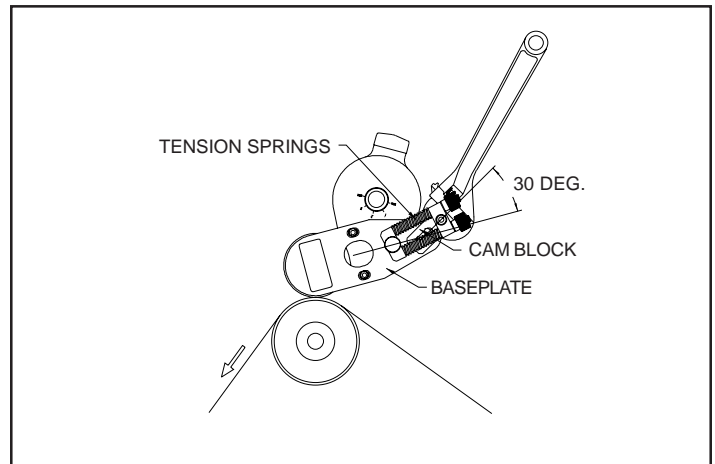

FIGURE 29
**3 - Using an adjustable wrench, grip the Cam Block (Figure 29) and rotate it approximately 10-15 degrees to compress the Tension Springs. While holding the Cam Block in this position, tighten the Mounting Bracket Clamping Screw.**